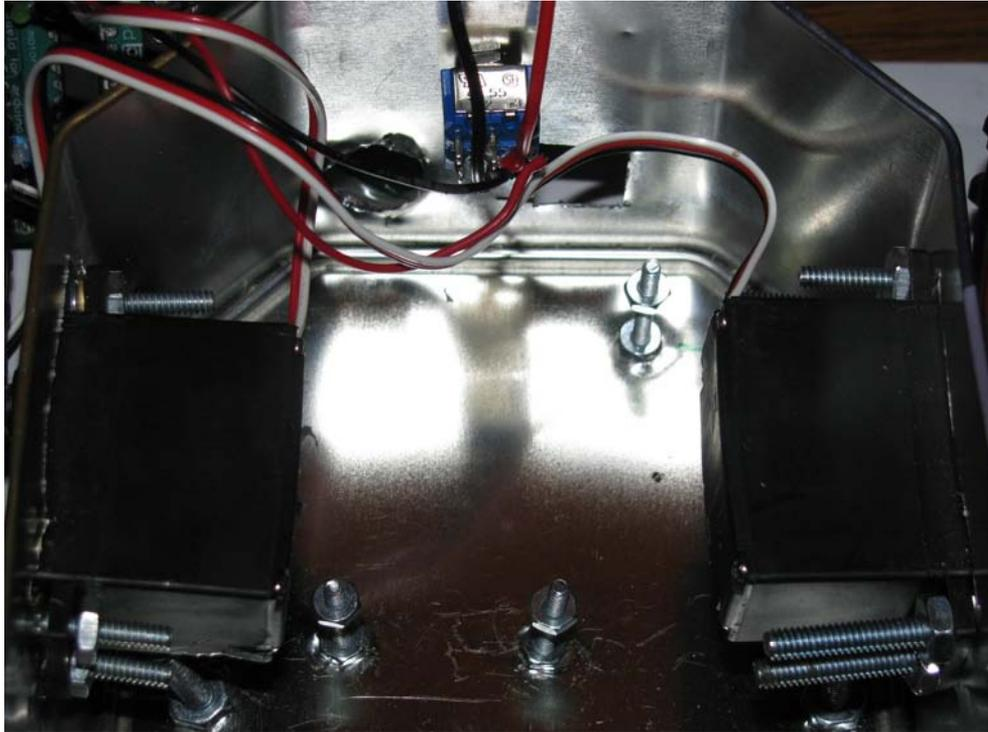

Figure 4-31. Install mounting bolts for Arduino in the frame.
6. **Mounting the Arduino.** Now we need to add some mounting bolts to the base of the frame to hold the Arduino. Place your Arduino in the bottom of the tin (centered), and mark a hole for the USB programming port to protrude from the back of the frame (you might also want to mark a hole for the DC power port). Using a 1/2-inch bit, drill a hole for each port at the marked spots. With the USB port extending slightly through its new access port in the back of the frame, mark the three mounting holes on the base of the frame with a permanent marker. Drill these holes with a 1/8-inch drill bit and mount (3) #6 bolts (0.5 inch-1 inch long), securing each tightly (see Figure 4-31).